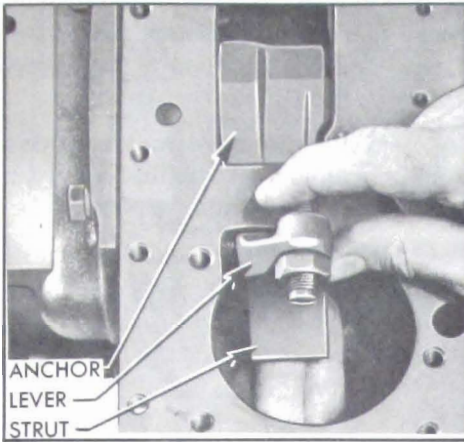

Figure 5-35—Removing Reverse Band Operating Strut
9. Remove the reverse band operating strut by extending fingers through the adjustment hole to prevent strut from falling into transmission case then release the strut by raising the operating lever. See Figure 5-35.